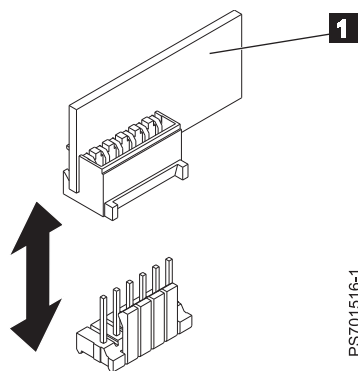

Figure 34. Installing the management card
To install the management card, which is shown by **1** in Figure 34, complete the following steps:
4. Insert the management card (as shown by **1** in Figure 34) and verify that the card is securely on the connector and pushed down all the way to the main board.